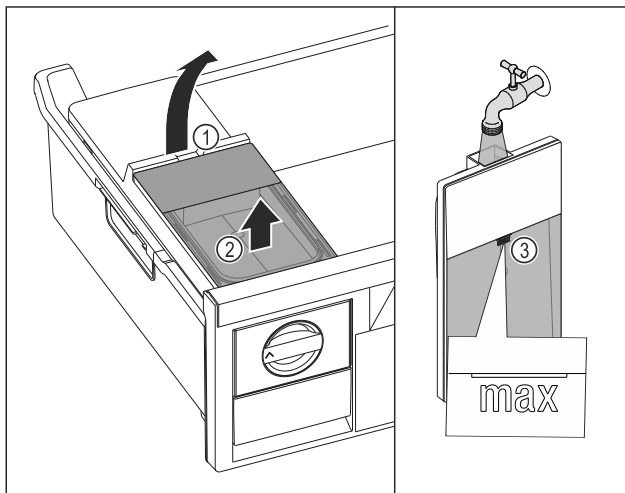

Fig. 79
- Lift the water tank at the recess Fig. 79 (1).
- Remove the water tank by lifting it upwards. Fig. 79 (2)
- Fill the water tank with drinking water up to the mark Fig. 79 (3).